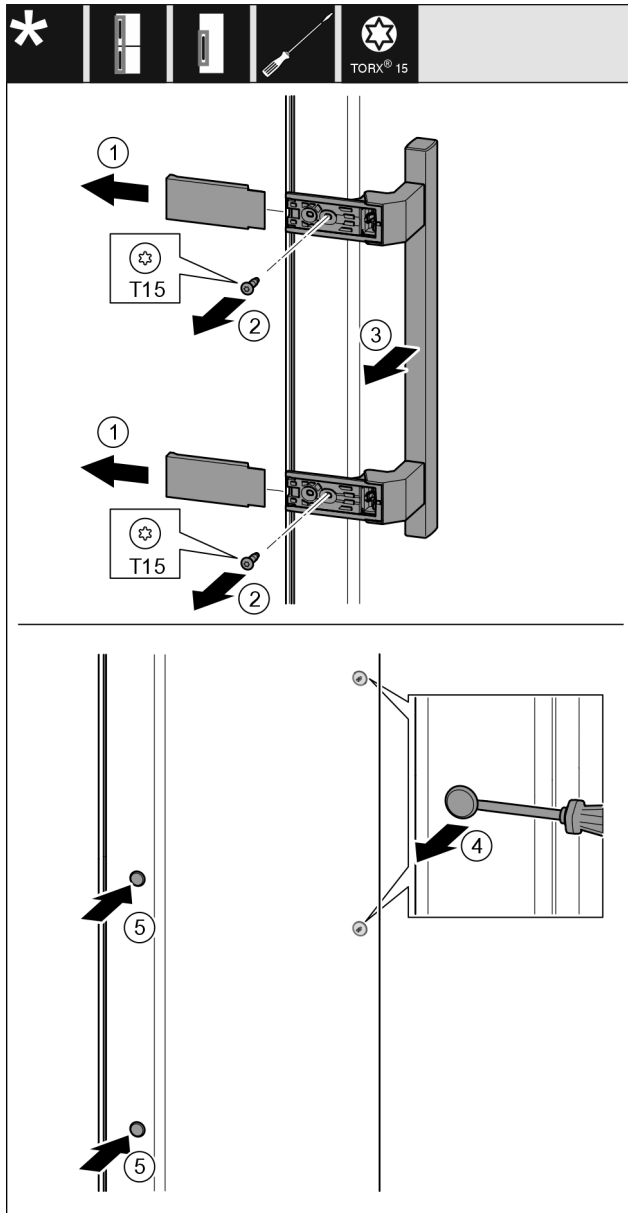

Fig. 37
- ▶ Pull off the cover Fig. 37 (1).
- ▶ Turn out the screws Fig. 37 (2) with the screw driver.
- ▶ Remove the handle Fig. 37 (3).
- ▶ Carefully lift the side plug Fig. 37 (4) with a slotted screwdriver and pull it out.
- ▶ Reinsert the plug Fig. 37 (5) on the other side.